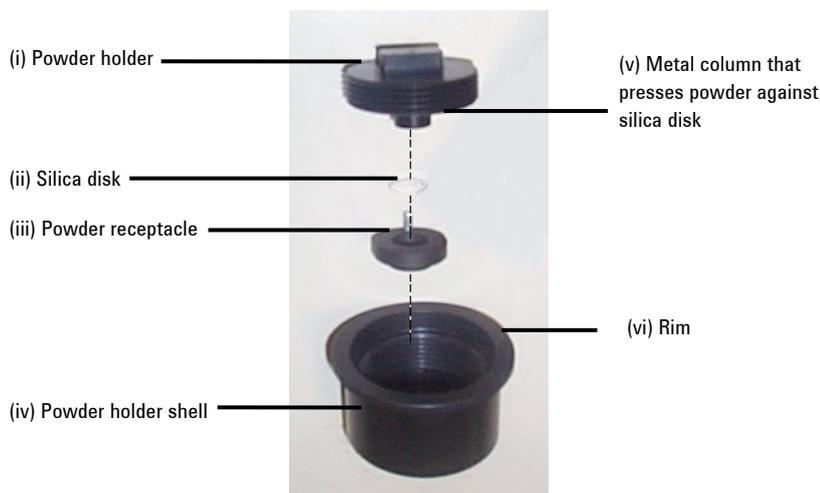

Figure 5. Exploded view of the powder holder. The sample sits between the silica disk (ii) and the column of the lid (v).
- 3 Position the powder receptacle (see Figure 5 (iii)) with the small silver rod pointing upwards.
- 4 Using gloves or lens tissue, carefully place a silica disk (see Figure 5 (ii)) into the powder holder receptacle. Beware of contaminating the disk with fingerprints.
- 6 Place the powder receptacle into the larger powder holder 'shell' (see Figure 5 (iv)). **To do this:**
- 7 Ensuring that the protruding black metal column (see Figure 5 (v)) is on the inside, (in order to securely press the sample up against the silica disk), screw the lid (see Figure 5 (i)) of the powder holder onto the shell.
- 8 Take the assembled powder holder and slide the rim (see Figure 5 (vi)) into the semi-circle groove on the accessory slide face created in step 2.